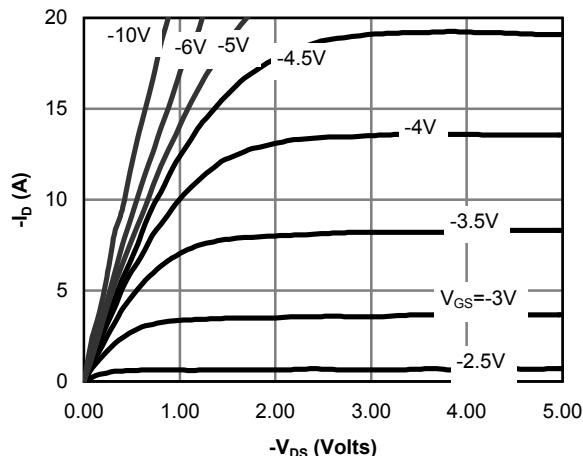

Figure 1: On-Region Characteristics
D. The static characteristics in Figures 1 to 6,12,14 are obtained using 80 μs pulses, duty cycle 0.5% max.